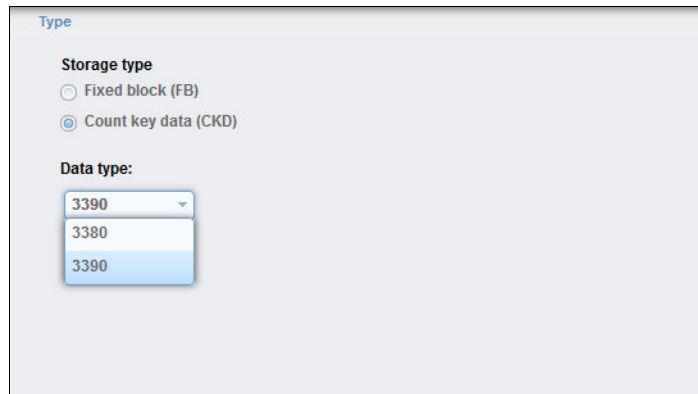

Figure 11-80 Create CKD Volumes: Advanced: Type Selection
2. The Type selection window appears, as shown in Figure 11-80. By default, the Storage type that is selected is **Fixed block (FB)**, so select the **Count Key Data (CKD)** radio button for Storage Type. Next, select the Data Type, **3380** or **3390** from the drop-down options.